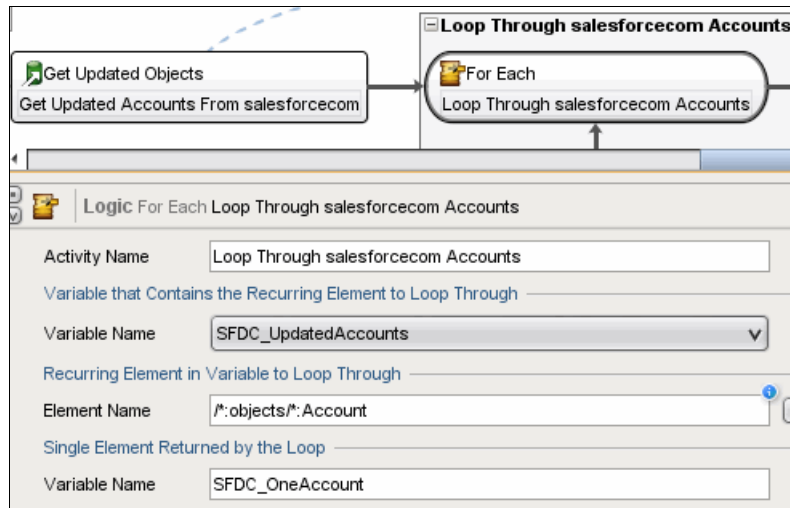

Figure 10-97 For Each loop definition
- e. Compare your settings to those shown in Figure 10-97.